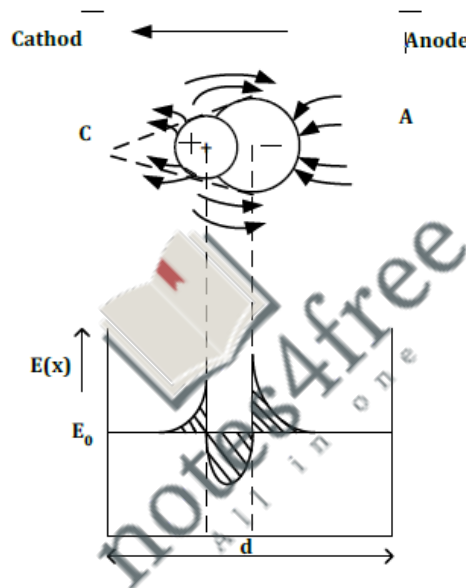

Fig 1.5 : Breakdown with a step function voltage pulse
Fig. 1.5 shows the electric field around an avalanche as it progresses along the gap and the resultant field i.e., the superposition of the space charge field and the original field  $E_0$ .
- B. It can be seen from Fig. 1.5 that the field at the head of the avalanche is strengthened.